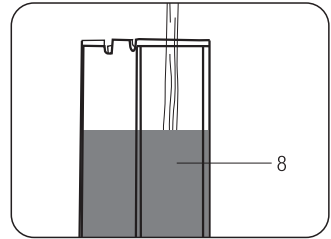

Fig.2
- Fill the tank with up to 1 liter of fresh cold water (**Fig.2**)